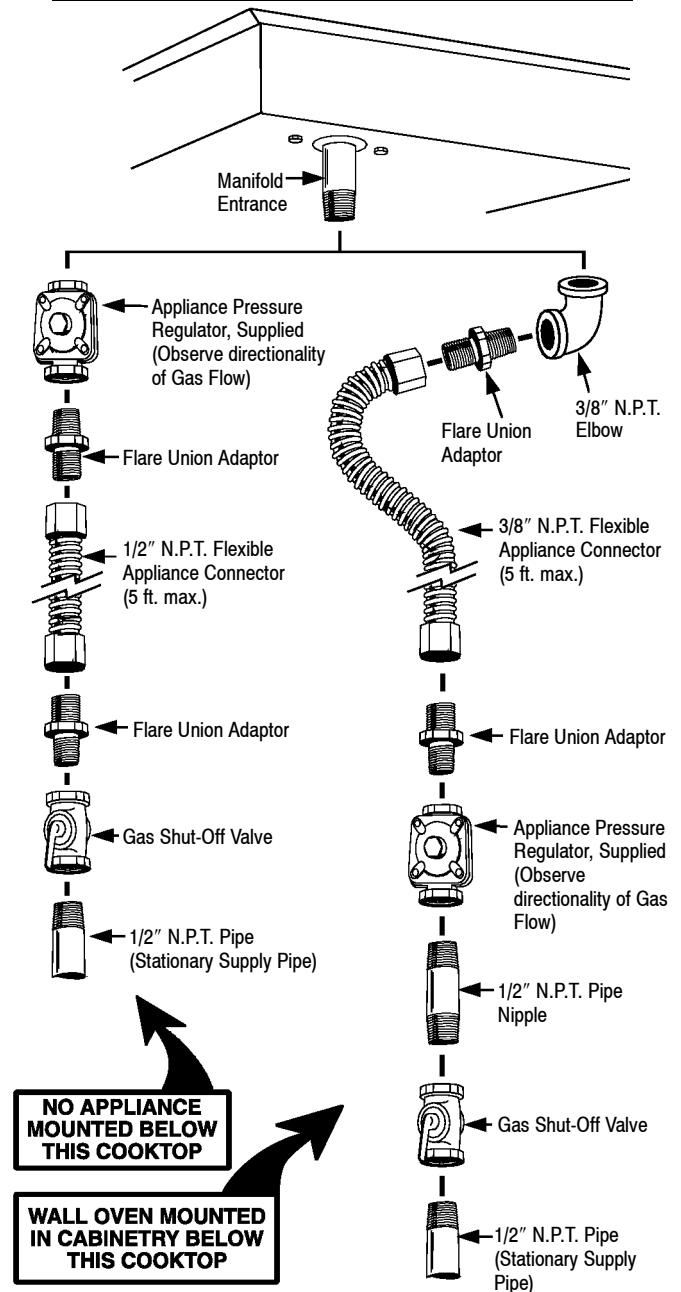

FIGURE 5
- If the alternative piping method shown in figure 5 is selected for the installation, no union is required. (The flexible appliance connector illustrated provides the union joints necessary for servicing.) When a dividing wall is present and a flexible connector is used it is recommended for convenience, in both installation and service, the flexible connector, itself, pass through the dividing wall. **Any flexible connector used with this appliance must satisfy all requirements stated in the text accompanying figure 5.**
Unless prohibited by local codes or ordinances, a new A.G.A. - Certified, flexible metal appliance connector may be used to connect this appliance to its gas supply. The connector must be no more than 5 feet in length. Per figure 5, use appropriate flare union adaptor at each end of the flexible connector. If a flexible connector is used assure that both the appliance pressure regulator and manual shut-off valve are joined solidly to other permanent hard piping (either gas supply or the appliance manifold) so as to be physically stationary. See illustrations below.